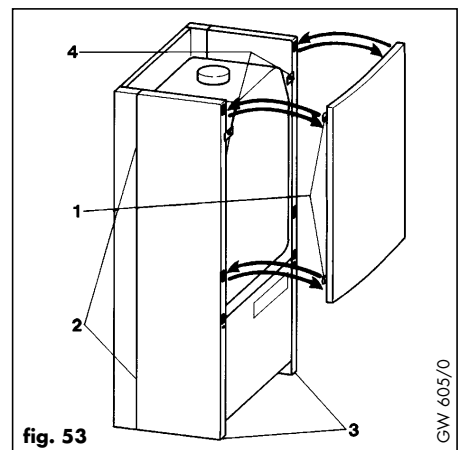

fig. 53
#### 7.1.3.2 Top panel (fig. 53)
- Remove screws (3, fig. 53)
- Remove screws (4, fig. 53) and retaining brackets.
- Slide side case panel upwards to release retaining clips (2, fig. 53) and lift off.